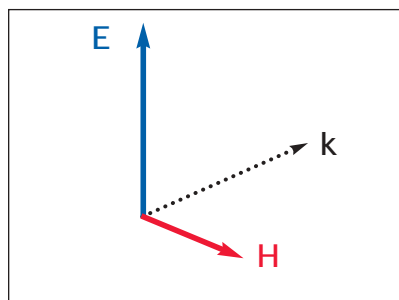

Figure 1. The field vectors of light.
Natural light is a transverse electromagnetic wave with electric (E) and magnetic (H) fields perpendicular to each other (Fig. 1). The two fields are also